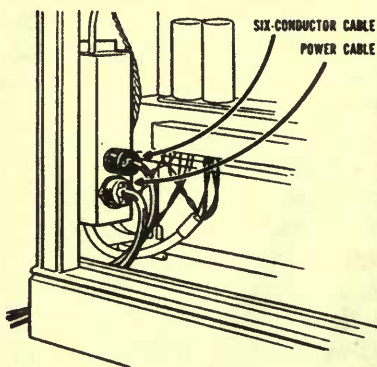

Figure 3
3. Figure 3 shows the cable terminal box inside the console. Below it is a round hole. Pass the two pole plug of the small cable through this hole and plug it into the lower receptacle. Similarly place the six pole plug in the upper receptacle.